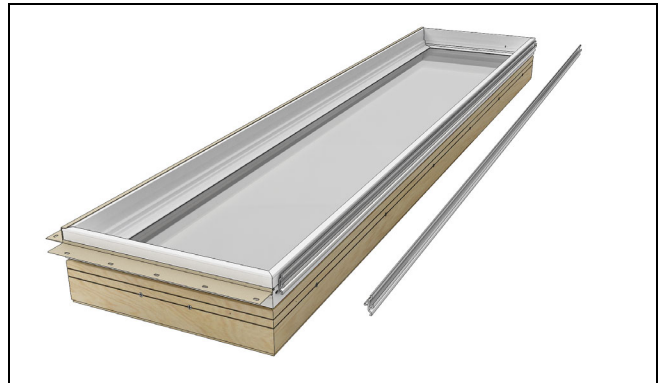

Figure 3
3. Insert one aluminum mulling pin into the kerf of the sill of the upper unit. Ensure mulling pin is roughly 3/4" from either edge of the units. See Figure 3.